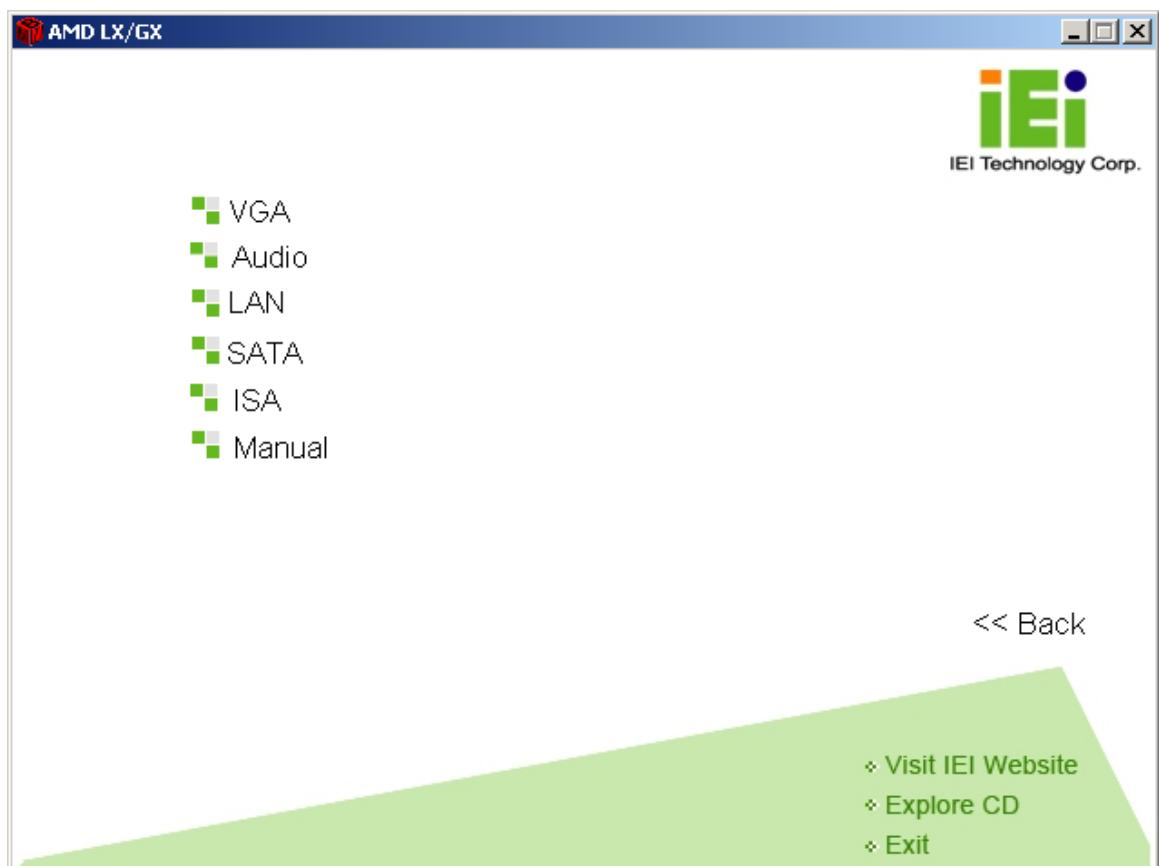

Figure 7-2: AMD LX/GX CD Driver Menu
Step 2: A window appears listing the drivers available for installation (**Figure 7-2**).